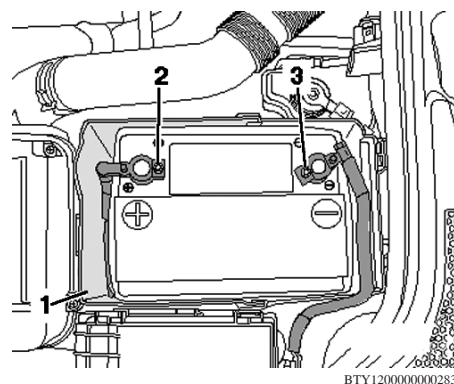

Fig. 2 Battery cable locations
6. **On all models**, loosen nut (3) a few turns, and remove ground cable terminal clamp from battery terminal, **Fig. 2**.
7. Loosen nut (2) a few turns, and remove positive cable terminal clamp from battery terminal, **Fig. 2**.
8. Remove front portion (1) of battery cover, **Fig. 2**.
4. Connect positive cable terminal clamp (2) by hand to battery positive terminal and tighten nut, **Fig. 2**.
5. Install front portion (1) of battery jacket, **Fig. 2**.
7. Install ground cable (3) on battery ground pole and tighten nut, **Fig. 2**.